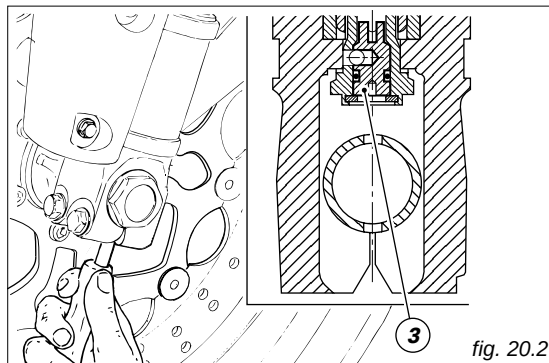

fig. 20.2
- 3) (fig. 20.2) to adjust compression damping.
E Turn the adjuster (1) on fork leg top with a flat screwdriver to adjust rebound damping. To reach the adjuster (3, fig. 20.2), insert a screwdriver into the passing hole on the wheel spindle at fork leg axis.